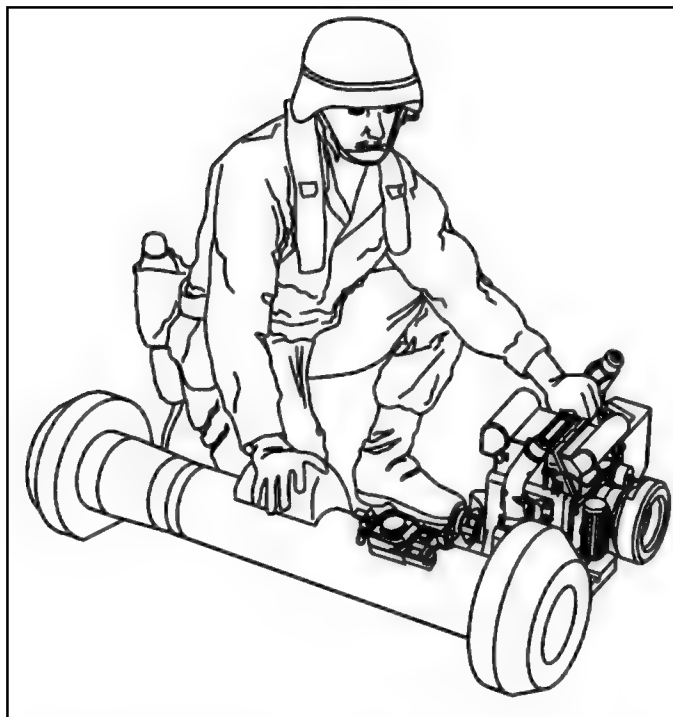

Figure 2-17. Connect the round to the CLU.
d. **Connect the CLU to the Round** (Figure 2-17). Kneel on the left side of the round, at the forward end, facing forward.